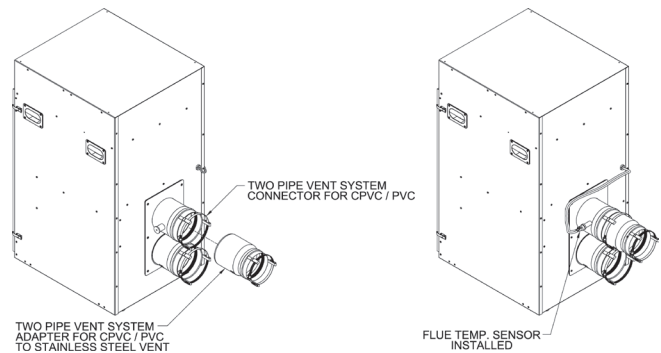

Figure 16: Field Installation of Two-Pipe Vent System Adapter for Stainless Steel
- Push and twist PVC to stainless steel adapter into two-pipe vent system connector vent or combustion air supply port until bottomed out. See Figure 16.